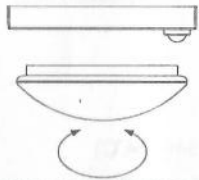

Figure1
- Unload the plastic cover anti-clockwise to open it. (refer to figure1)